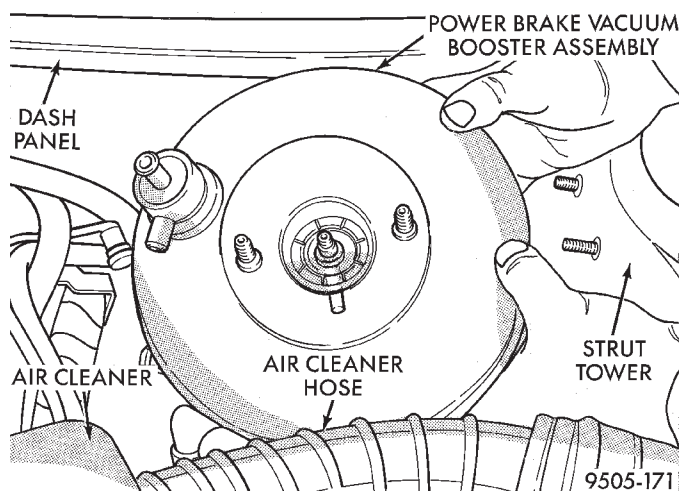

Fig. 102 Power Brake Vacuum Booster
(12) Slide power brake vacuum booster forward until mounting studs clear dash panel and then tilt up and rotate toward center of vehicle to remove (Fig. 102).